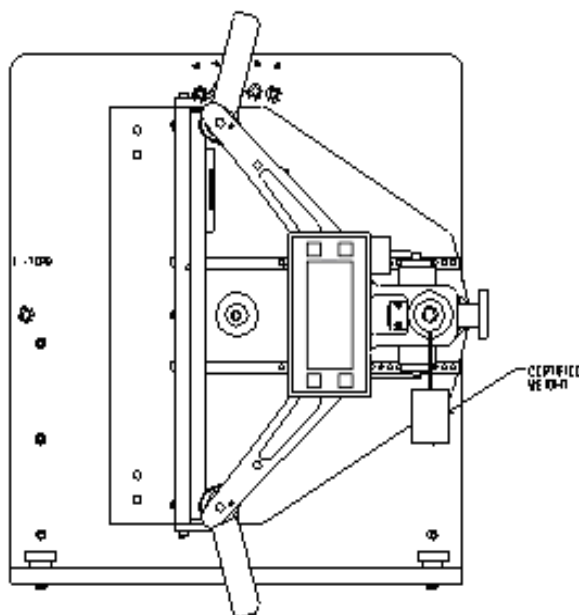

Fig. 6
- i) If the force transducer is mounted above the electronic unit, the torque position is typically at +90°. (Fig. 6)